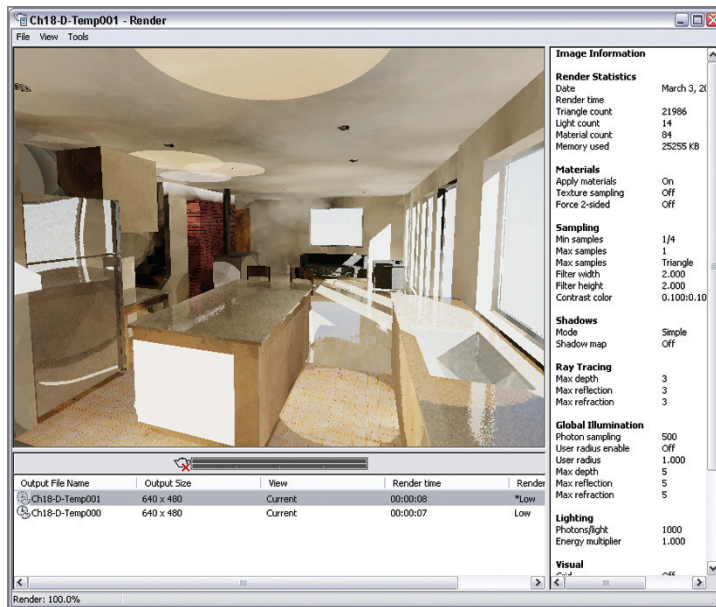

FIGURE 18.18 Global illumination bounces photons off the floor and onto the ceiling.
5. Click the Render icon in the Render panel to create another test render. Figure 18.18 shows the result. The global illumination algorithm bounces photons off the floor, and this helps illuminate the ceiling. However, there aren't enough photons for a quality result.